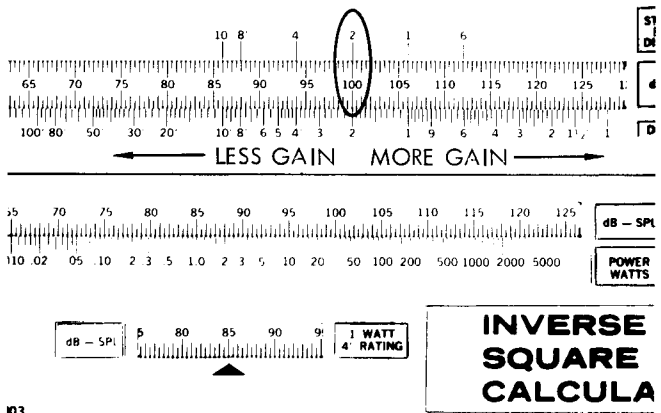

Figure 15
2. For D_s distances greater than 2' on the Distance Feet scale, subtract the number on the dB-SPL scale opposite the number on the Distance Feet scale from 100. This is the additional loss caused by increasing the D_s distance (see Figure 15).